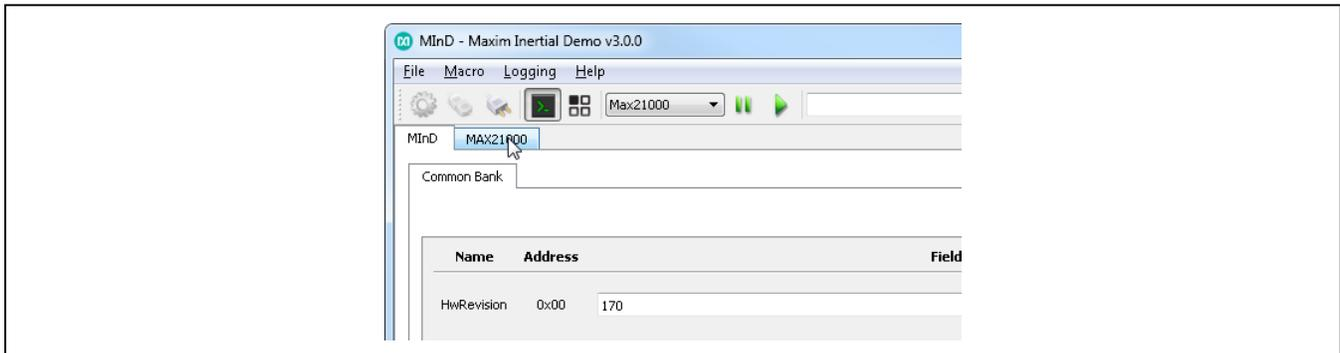

Figure 16. MAX21000 Tab Selection
- 1) Select the **MAX21000** tab (Figure 16).